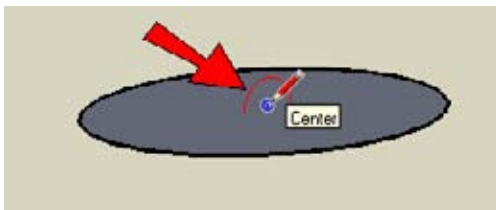

Figure 2-72
3. Place the center of the new circle at the center of the first circle (Figure 2-72).